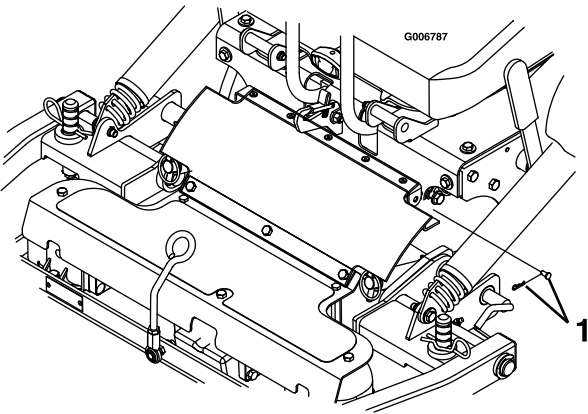

Figure 71
7. Remove the hairpin and clevis from both sides of the PTO guard (Figure 71).
6. Align the upper portion of the rubber PTO guard to the tabs on the front of the console and secure it with a clevis pin and hairpin on each side (Figure 71).